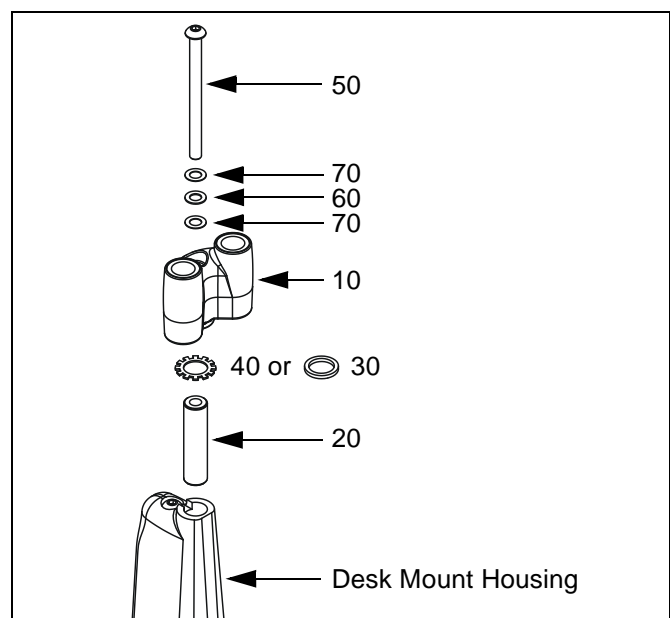
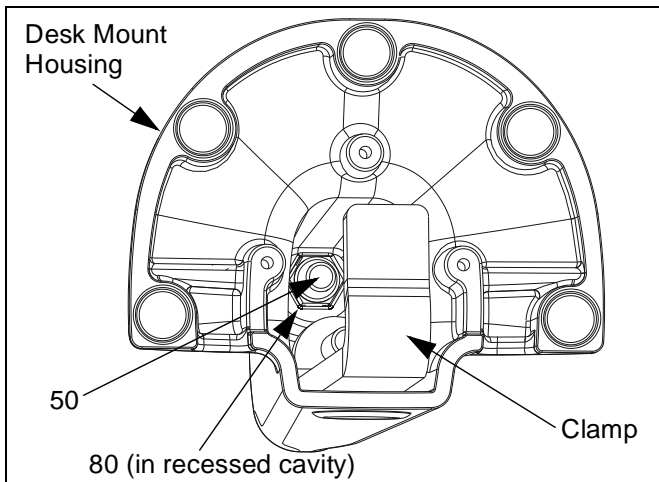

Figure 4: Assemble Y-Connector to Desk Mount
Figure 5: Install Nut
6. Turn desk mount housing right side up and install pin (20) into housing (See Figure 4).
- Install washer (40) or spacer (30), as desired, on pin (20) (See Figure 4).
- Install Y-connector (10) on pin (20) (See Figure 4).
- Install screw (50) through washer (70), washer (60), and washer (70), into Y-connector (10) (See Figure 4).
- While holding Y-connector (10), desk mount housing, and screw (50) together, turn entire assembly upside down.
- Insert eraser end of pencil into plastic lock ring of nut (80). Using pencil, thread nut (80) onto end of screw (50) several turns (See Figure 5). If necessary, rotate clamp to permit access.
- Using 3/16" hex key, tighten screw (50) as required to maintain desired Y-connector (10) position. Ensure nut (80) fully seats into recessed cavity of desk mount housing (See Figure 5).